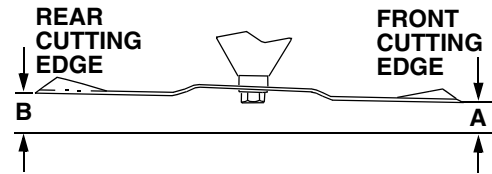

Figure 54
- Accessing the right hand blade through the discharge chute opening, measure the distance from the front cutting edge to the ground (measure A), and from the rear cutting edge to the ground (measure B). The front edge of the blade (measure A) should be between equal with its back edge (measure B) and lower by a maximum of 1/4 inch. See Figure 54.